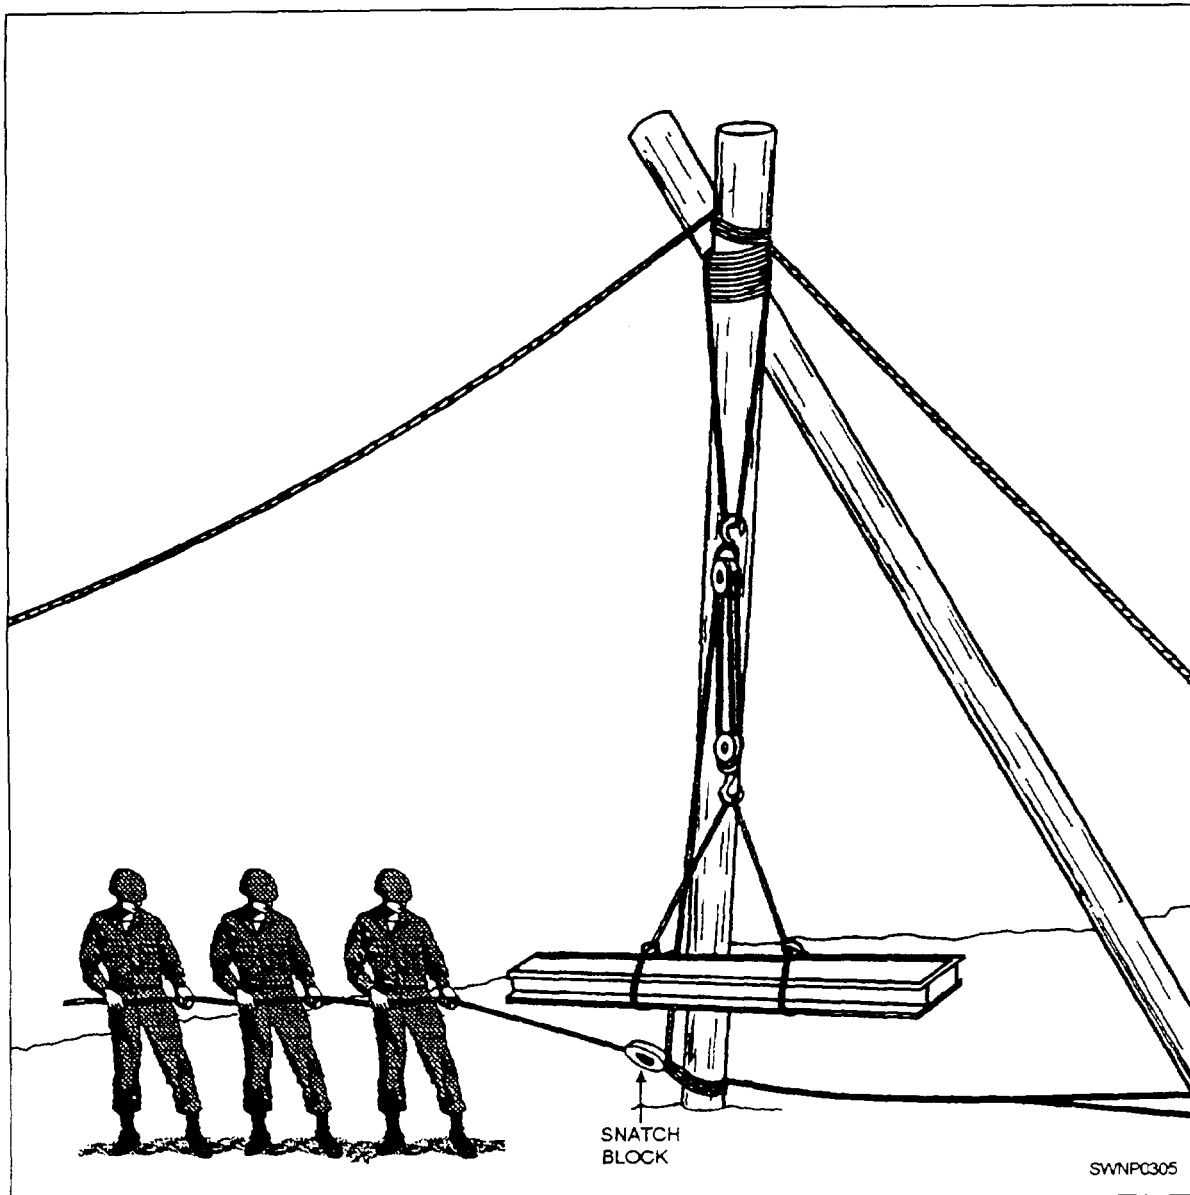

Figure 6-58.—Hoisting with shears.
3. *Operating.* The rear guy is a very important part of the shears rigging, as it is under a considerable strain when hoisting. The front guy has very little strain on it and is used mainly to aid in adjusting the drift and to steady the top of the shears when hoisting or placing the load. It maybe necessary to rig a tackle in the rear guy for handling heavy loads. In operation, the drift (inclination of the shears) desired is set by adjustment of the rear guy, but this should not be done while a load is on the shears. For handling light loads, the fall line of the tackle of the shears can be led straight out of the upper block. When heavy loads are handled, you should lash a snatch block (fig. 6-58) near the base of one of the shear legs to act as a leading block, The fall line should be run through the leading block to a hand- or power-operated winch for heavy loads.